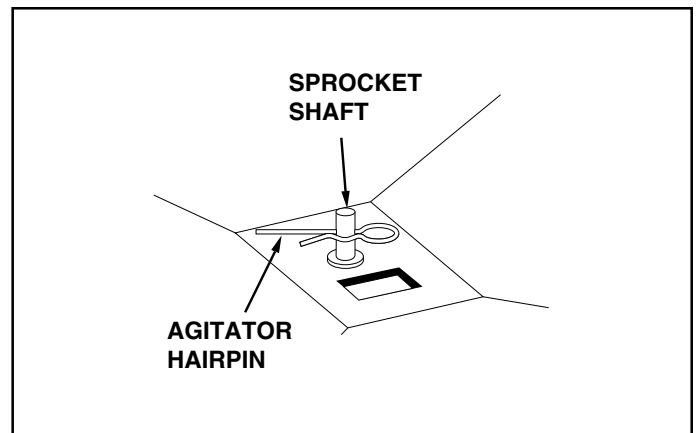

FIGURE 17
2. If the agitator hairpin becomes damaged or worn it can be replaced. See figure 17.